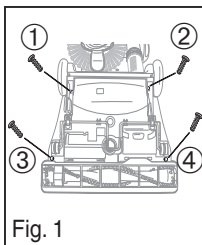

Fig. 1
- 1) Use handle release to lower handle flat onto floor. Turn vacuum over on its backside and remove 4 screws (Fig. 1).
Loosen lower end of hose and pull hose retainer out to remove hose. Flex hose to loosen any blockage (Fig. 1).